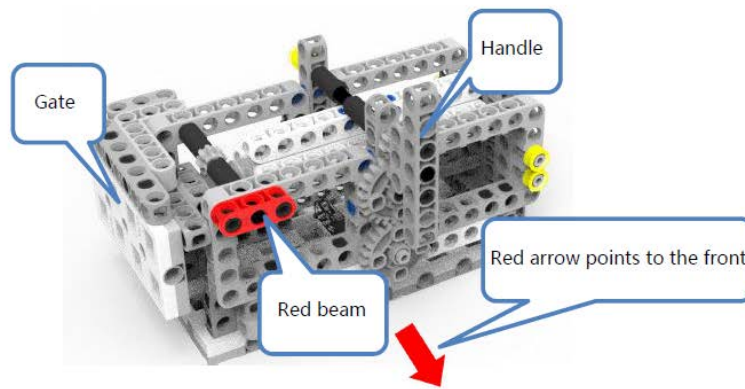

Figure 3-2-1 Sewage Task Model Initial Status
3.2.1 Sewage Disposal task model may be placed in positions 1 to 10 with fixed direction; red arrow points to the front; the gate is closed and the handle is vertical, as shown in Figure 3-2-1.